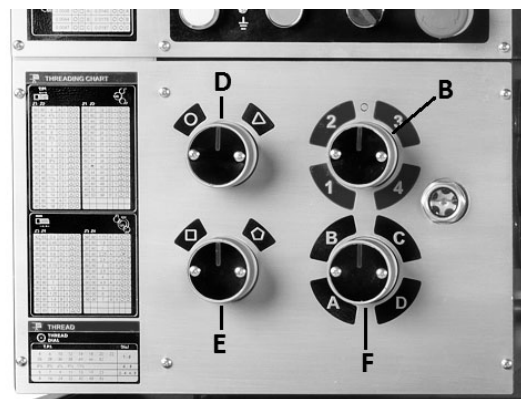

Figure 10-4
2. Turn knob (B, Figure 10-4) so that the arrow points at the round circle to start the feed rod rotating.
1. Set feed rate selectors (D/E/F, Figure 10-4) in proper position for correct feed rate of the thread pitch to be cut.
2. Turn knob (B, Figure 10-4) so that the arrow points to 1, 2, 3 or 4 to start the thread cutting.